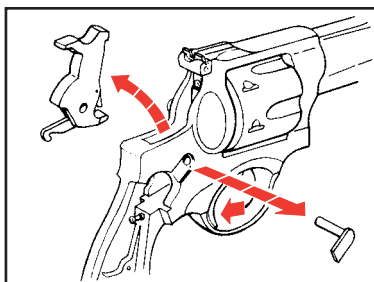

Figure 14
2. With the trigger pulled, remove the hammer pivot assembly and hammer (See Figure 14). At this stage of disassembly, return to the Disassembly instructions on page 21 and pick up with numbered paragraph 5.